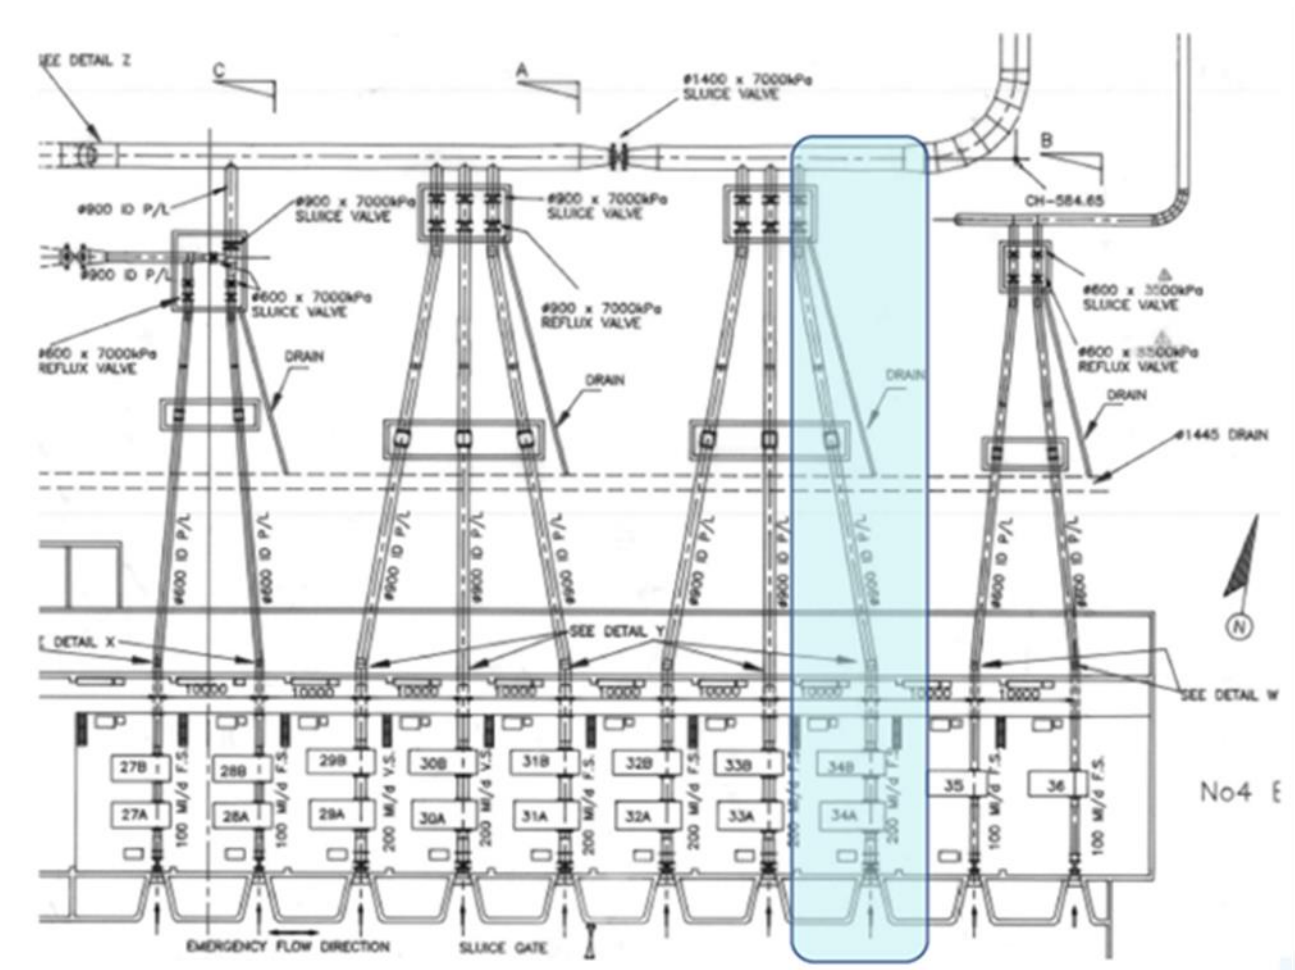

Figure 1: Zuikerbosch (ZB) Pumping Station Engine Room (ER4)
Zuikerbosch (ZB) Pumping Station Engine Room (ER4) delivery and supply lines were constructed and commissioned after 1996, it currently supplies primarily Eikenhof, Palmiet and Zwartkopjies systems through B10, B12 and B15 rising mains or pipelines. The pipelines are fed from pumping station through various delivery lines as indicated in figure 1 hereunder.